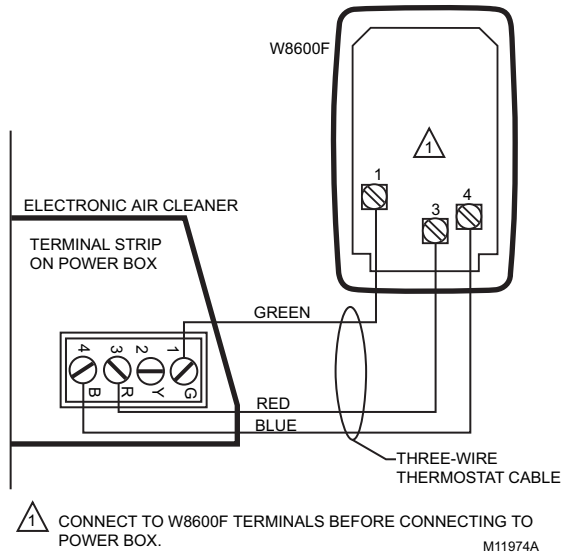

Fig. 12. Wiring W8600F to Electronic Air Cleaner power box terminal strip (two-cell model).
6. Connect the three wires from the W8600F to the EAC terminals 1, 3 and 4. See Fig. 12.